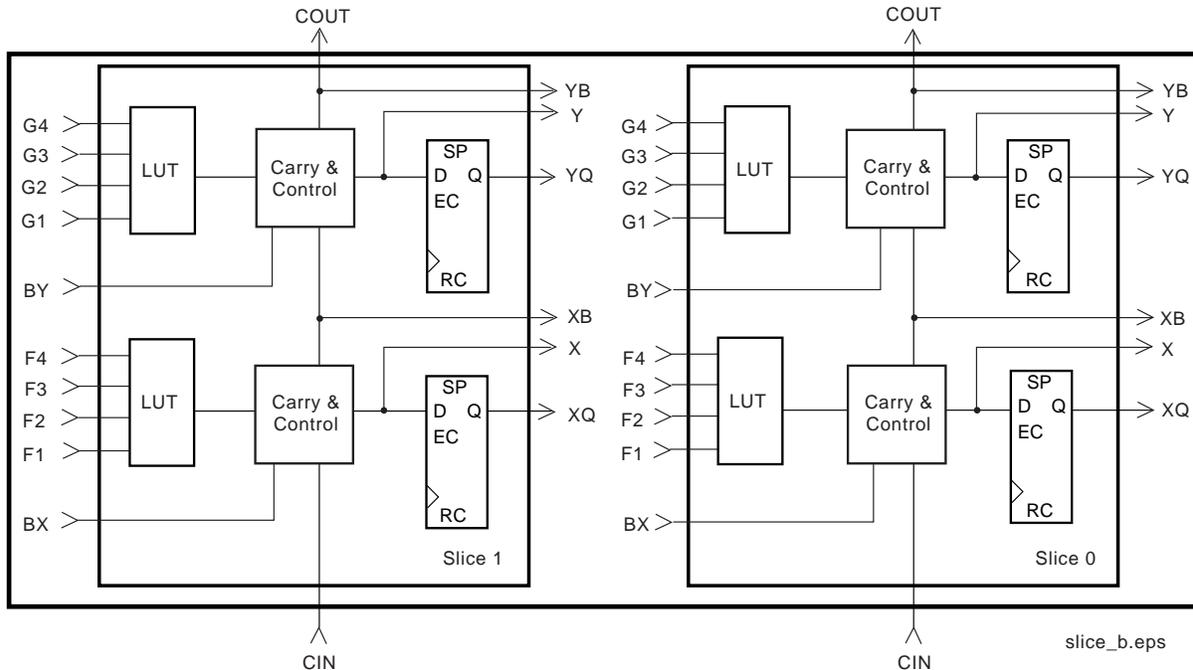

Figure 4: 2-slice Virtex CLB
The basic building block of the Virtex CLB is the logic cell (LC). An LC includes a 4-input function generator, carry logic, and a storage element. The output from the function generator in each LC drives both the CLB output and the D input of the flip-flop. Each Virtex CLB contains four LCs, organized in two similar slices, as shown in Figure 4. Figure 5 shows a more detailed view of a single slice.